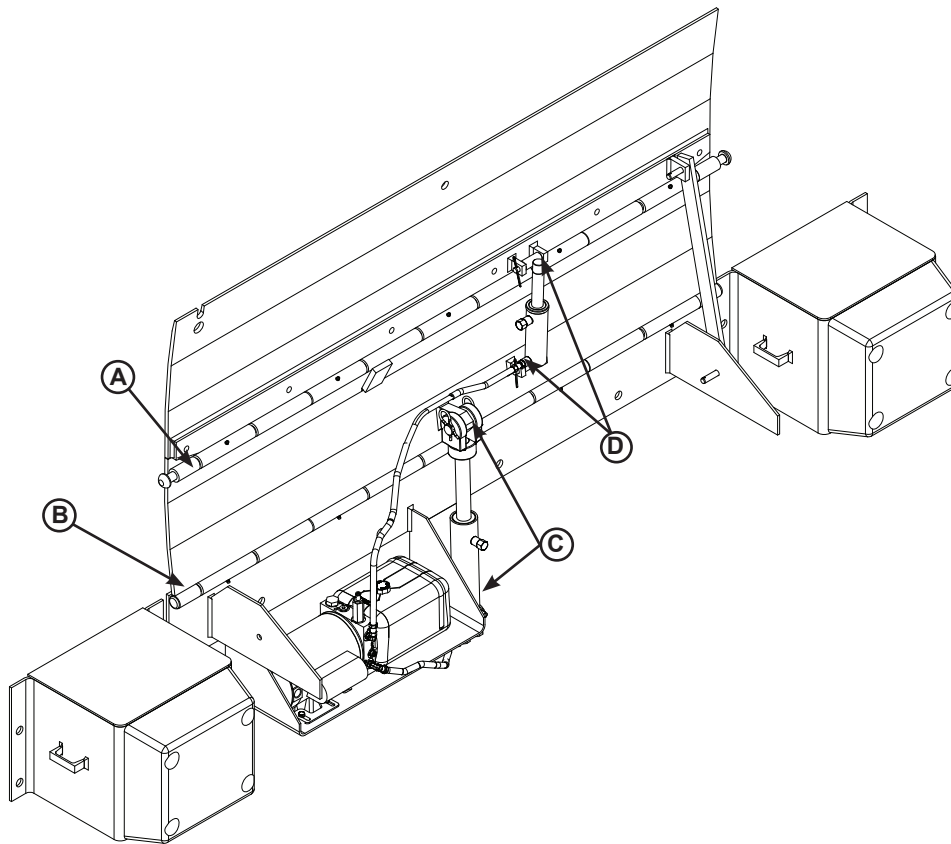

Figure 18
- Lubricate the following areas with light weight machine oil (see Figure 18):
- (A) — Lip hinge area unless equipped with grease fittings (apply oil to the top of the entire length of lip hinge when platform is at the full below-dock position and lip is folded)
- (B) — Platform rear hinge area (apply oil to top of all platform hinges when platform is at the full below-dock position)
- (C) — Platform cylinder pins
- (D) — Lip cylinder pins